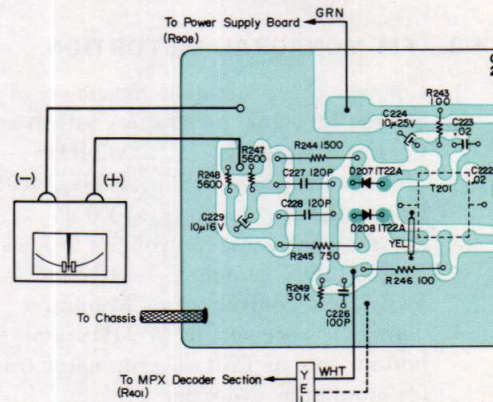

Fig. 4-1 Connection of null meter
1. Unsolder the grounded leads of resistors R247 and R248 on the I-F amplifier and discriminator board. Then, connect a null meter (center zero) or dc voltmeter between the junction of R247 and R248, and the ground foil, as shown in Fig. 4-1.